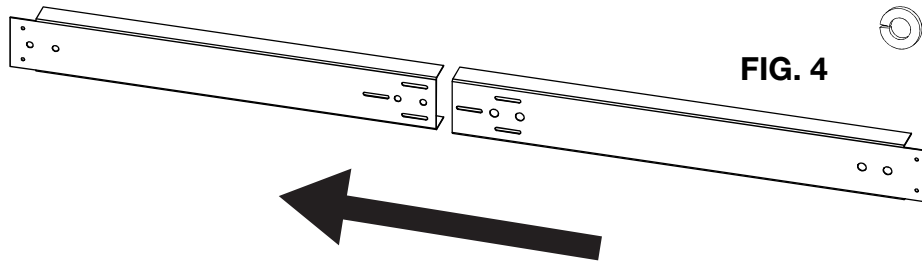

FIG. 4
1. Slide the 2 steel header pieces together, ensuring to align the 3 slots (FIG. 4).